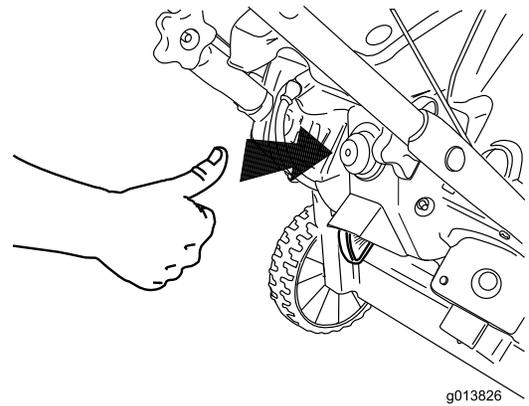
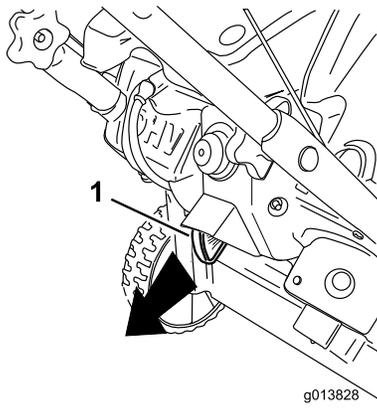

**Figure 16**
Figure 22
2. Move the choke lever fully to the right (Figure 16).
To shut off the engine, pull the ignition key outward until it clicks into the OFF position (Figure 22) or move the choke lever fully to the right (Figure 16).